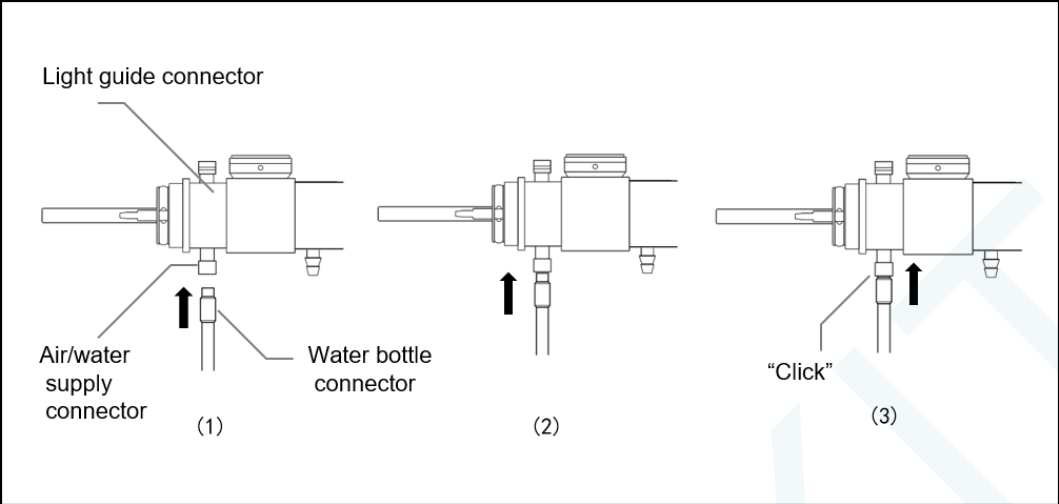

Figure 3.15
3. Connect the water bottle connector to the air/water supply connector, as shown in Figure 3.15(1), (2) and (3).